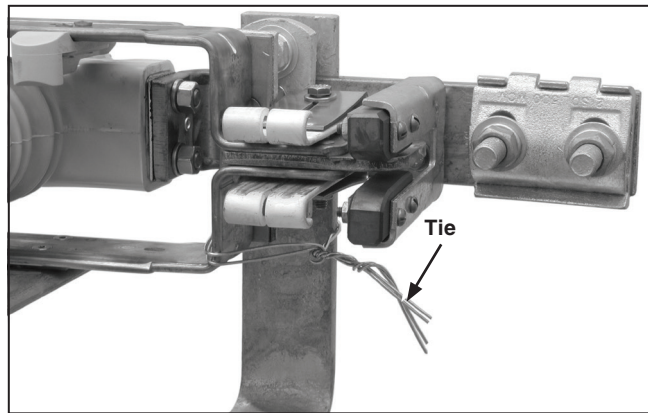

Figure 4. Tying the switch blade to the main contacts.
**STEP 5.** To minimize time-consuming final adjustments, make sure the switch is fully closed. Tie the switch blades to their stationary main contacts. See Figure 4.